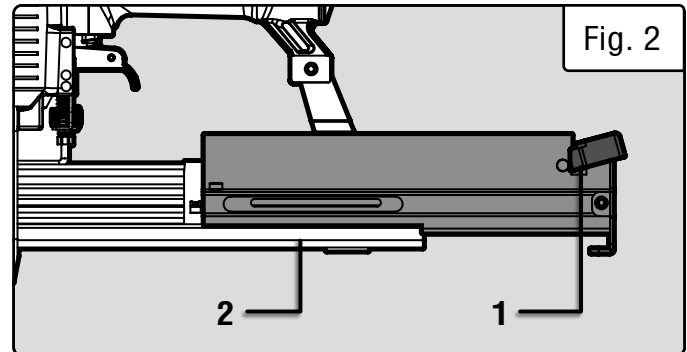

Fig. 2
1. Turn the compressor on and allow it to pressurize. Make sure the tool pressure regulator is set to 0 (Fig. 2).
1. Depress the magazine lock (Fig. 2 - 1). Pull out the movable magazine (Fig. 2 - 2).